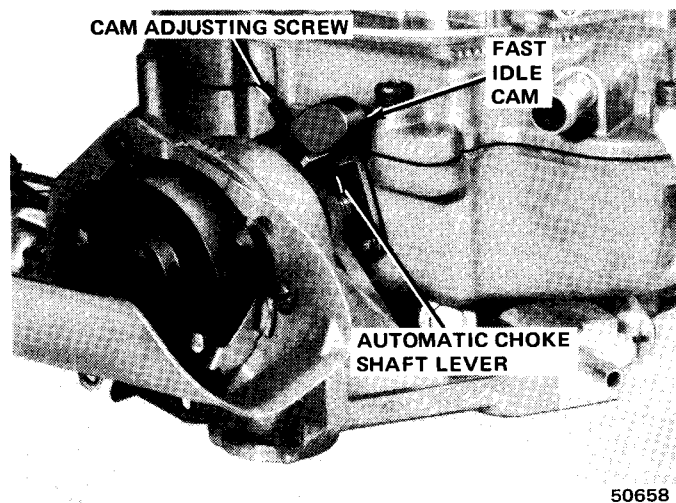

Fig. 4-80 Indexing Choke Plate
(1) Loosen choke lever attaching screw (turn clockwise). Pry lever off choke shaft far enough to allow choke valve to turn.
(2) Back out cam index adjusting screw until screw no longer touches automatic choke shaft lever (fig. 4-80).
(3) Loosen choke cover attaching screws and rotate cover 90 degrees counterclockwise so that automatic choke shaft lever touches fast idle cam. Tighten one choke cover attaching screw.
(4) Turn cam index screw until it just touches the automatic choke shaft lever and then turn an additional 6 to 7 turns.
- (5) Manually close choke plate and tighten choke shaft lever attaching screw.
- (6) Adjust initial choke valve clearance and fast idle cam linkage.
- (7) Set choke cover to specified setting and tighten attaching screws.